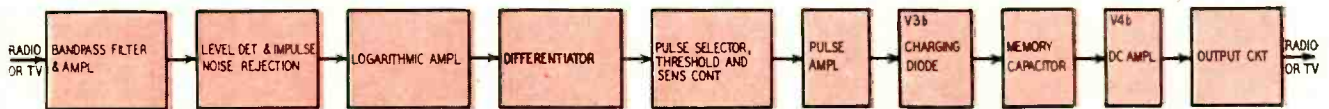

Fig. 1—Block diagram shows sequence of circuits in speech-music discriminator—unit is highly selective.
**A**N electronic device to discriminate between speech and music (Fig. 1) was described in the August, 1955, issue of RADIO-ELECTRONICS. Unfortunately, the unit fell considerably short of my expectations. After spending considerable time on the circuit, as explained in my letter of January, 1956 (Correspondence, page 16), I was able to obtain excellent results.